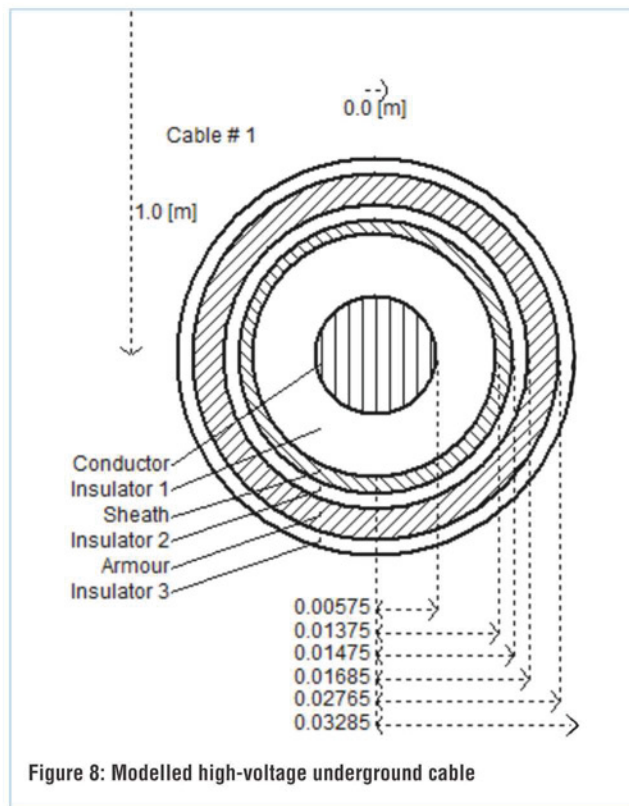

Figure 8: Modelled high-voltage underground cable
Normally, when optimization methods are used to update the weights of an ANN, the rule base is not needed, so using optimization methods is an advantage to train an ANN. There are several such optimization methods, including genetic algorithm (GA), particle swarm optimization (PSO), differential evolution algorithm (DEA), clonal selection algorithm (CSA), hybrid DEA-CSA and artificial bee colony (ABC). When optimization methods are used with the ANN, they are called hybrid ANN methods; see Figure 8.